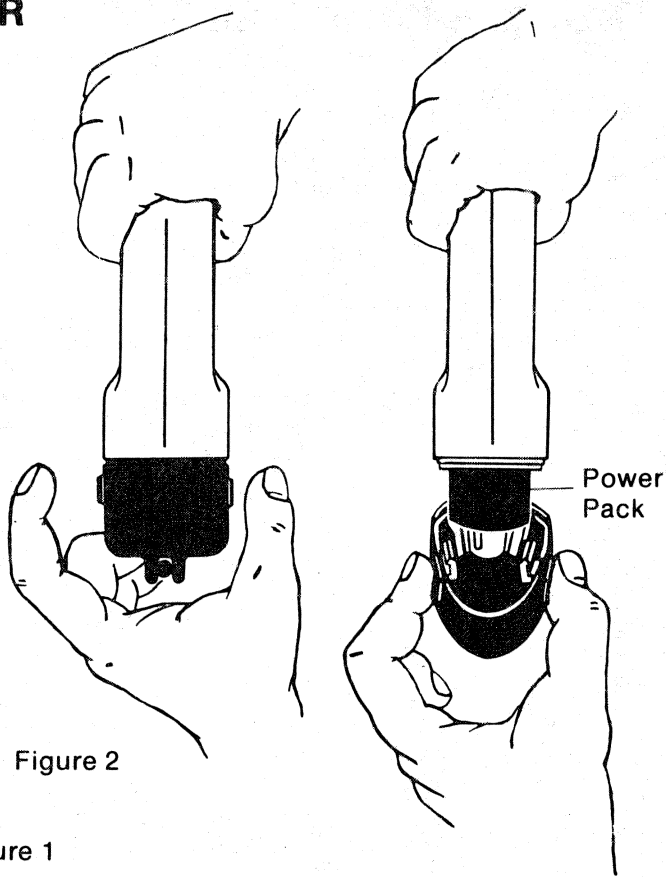

Figure 2
2. Depress the Latch Buttons simultaneously on end cap and pull away from Drill Handle. End cap will be held to drill by hinge straps (see Figure 2).